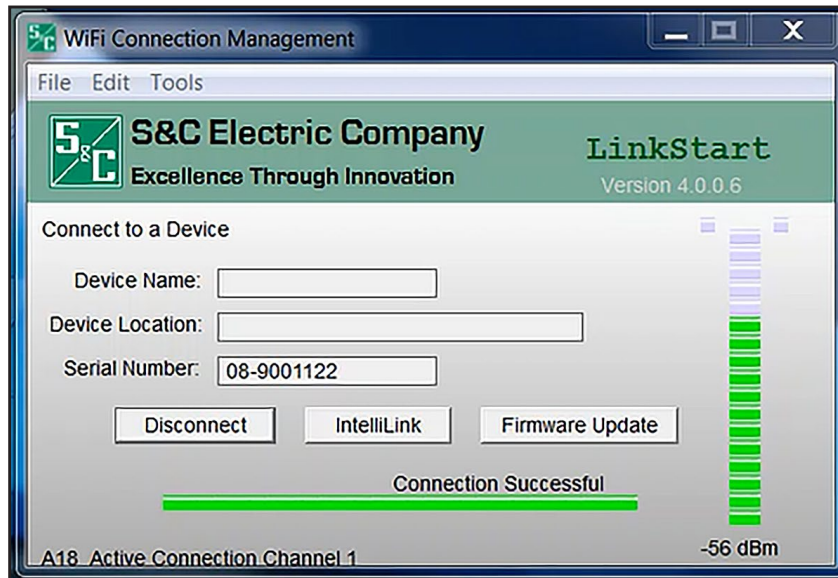

Figure 7. A successful connection to the IntelliRupter fault interrupter.
STEP 4. When a connection is established, the status bar indicates “Connection Successful” and displays a solid green bar. The vertical bar graph indicates signal strength of the Wi-Fi connection. See Figure 7.